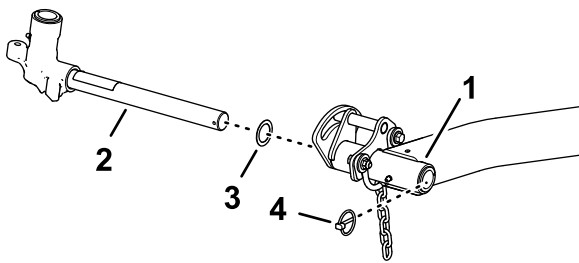

Figure 17
1. Remove the lynch pin and washer securing the lift-arm pivot shaft to the lift arm and slide the lift-arm pivot shaft out of the lift arm (Figure 17).